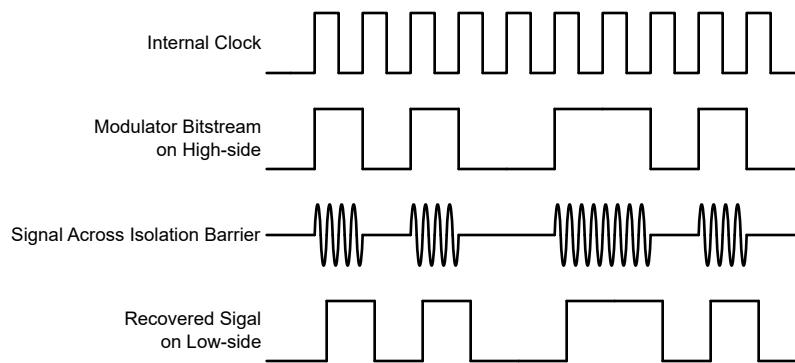

Figure 7-1. OOK-Based Modulation Scheme
As shown in Figure 7-1, the AMC0380R uses an on-off keying (OOK) modulation scheme to transmit the modulator output bitstream across the SiO_2 -based isolation barrier. The transmit driver (TX) is illustrated in the Functional Block Diagram. TX transmits an internally generated, high-frequency carrier across the isolation barrier to represent a digital one. However, TX does not send a signal to represent a digital zero. The nominal frequency of the carrier used inside the AMC0380R is 480MHz.